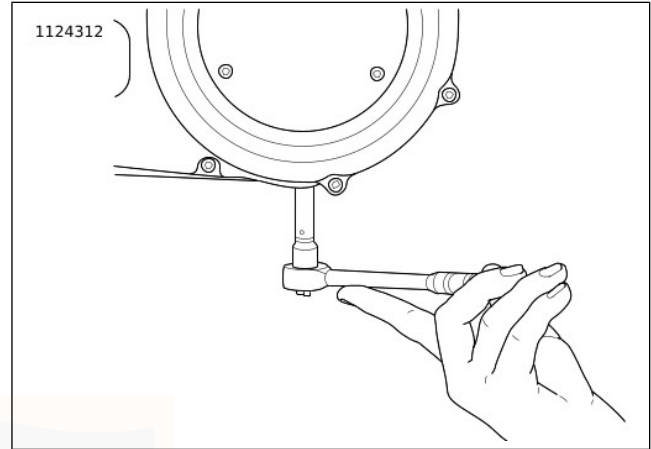

Figure 91. Removal/Installation of Chaincase Drain Plug
3. See Figure 91. Drain primary chaincase.